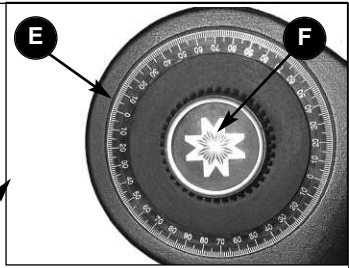

Fig. 1b (Inset): (E) Altitude Setting Circle; (F) Altitude Lock
- A) **Altitude Setting Circle:** Displays Altitude (vertical) coordinates (**A, Fig. 1b**).
- B) **Altitude Lock:** Controls the manual vertical movement of the telescope. Turning the Altitude lock counterclockwise unlocks the telescope enabling it to be freely tilted by hand on the vertical axis. Turning the Altitude lock clockwise (to a firm feel only) prevents the telescope from being moved manually and engages the vertical motor drive clutch for Autostar operation (**B, Fig. 1b**).